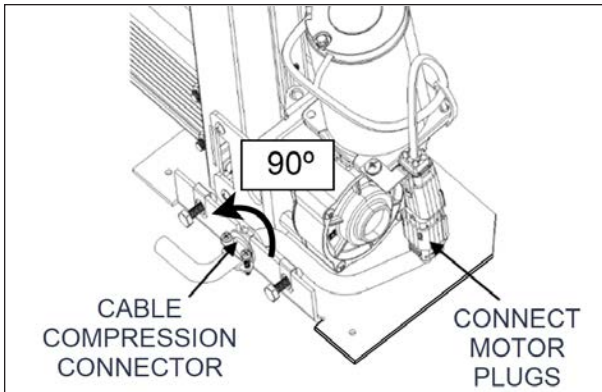

FIGURE 83: CONNECTOR AND PLUGS
11. Connect the cable to the motor harness and tighten the screws of the compression connector onto the base. The screws of the compression connector should be oriented horizontally. You might have to rotate the connector as shown on Figure 83.